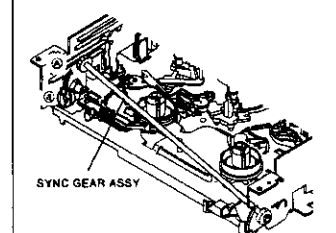

Fig. 2-27-1
- 1 Unfasten the catch (a) of the MAIN PLATE ASSY as shown in Fig. 2-27-1. Move the SYNC GEAR ASSY in the direction shown by the arrow (A) to remove it.
- 1 Move the SYNC GEAR ASSY shown in Fig. 2-27-1 in the opposite direction against the arrow (A) to install it.